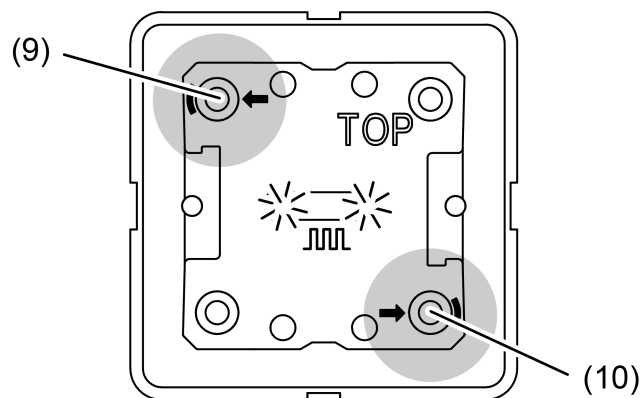

Figure 6: Buttons for activating Programming mode
- Activate programming mode: Press and hold push-button at the upper left (9). Then press push-button at the lower right (10) (Figure 6).
- Press and hold down the top left button and bottom right button (Figure 6).
- Press the top left button and bottom right button (Figure 6) and hold for more than 5 seconds.